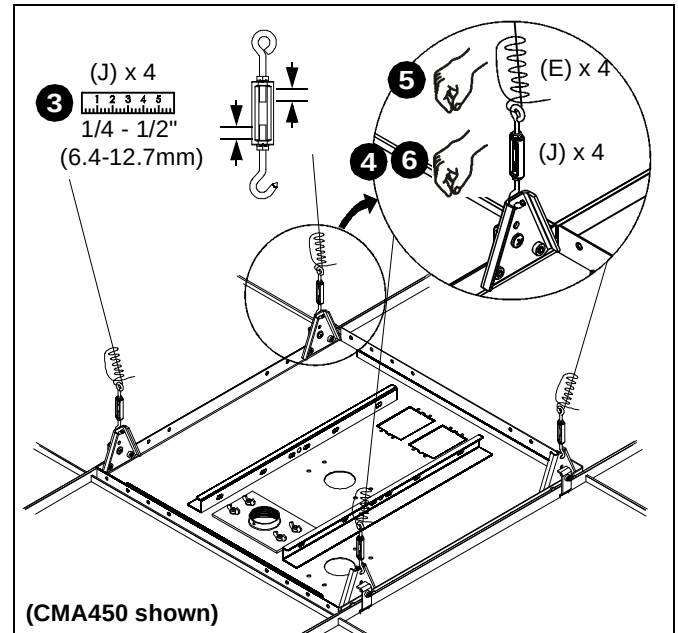

Figure 12
3. Adjust hooks and eyes on turnbuckles (J) so that approximately 1/4-1/2" (6.4-12.7mm) of threads show on inside of turnbuckles (See Figure 12).
4. Attach the hook end of each turnbuckle (J) to the corresponding hanger bracket (G) upper hole. (See Figure 12)
5. Insert corresponding hanging wire (E) through eye in turnbuckle (J). Pull wire tight and twist back around itself at least 4 complete turns, then thread loose end between eye and first turn. (See Figure 12) Repeat for 3 remaining turnbuckles (J).
6. Adjust turnbuckles (J) until tray (A) is supported *entirely and evenly* by all four support wires (E), but not so tight as to distort suspended ceiling framework (See Figure 12).